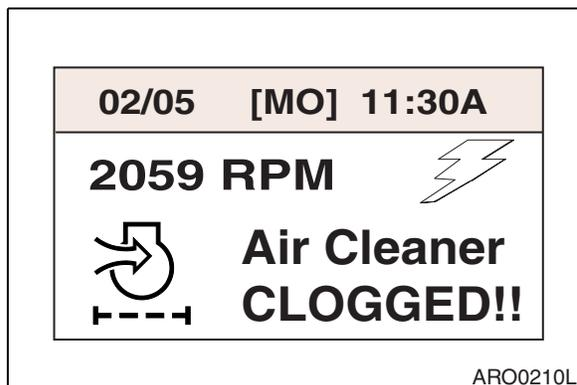

Figure 42
**NOTE:** *If indicator light (Figure 42) on instrument panel comes "ON" the air cleaner must be serviced.*